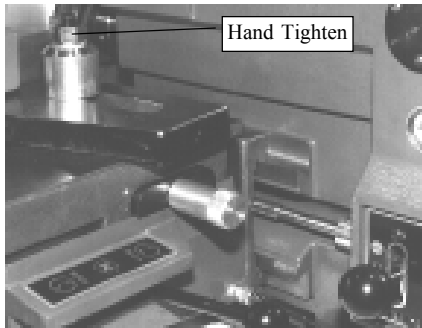

Figure 34
8. Now that the Rotor-Truer and cross slide surfaces have been properly cleaned, place the Rotor-Truer on the cross slide over the adjustable pivot post. Install a spacer, washer and nut. Hand tighten. See Figure 34.